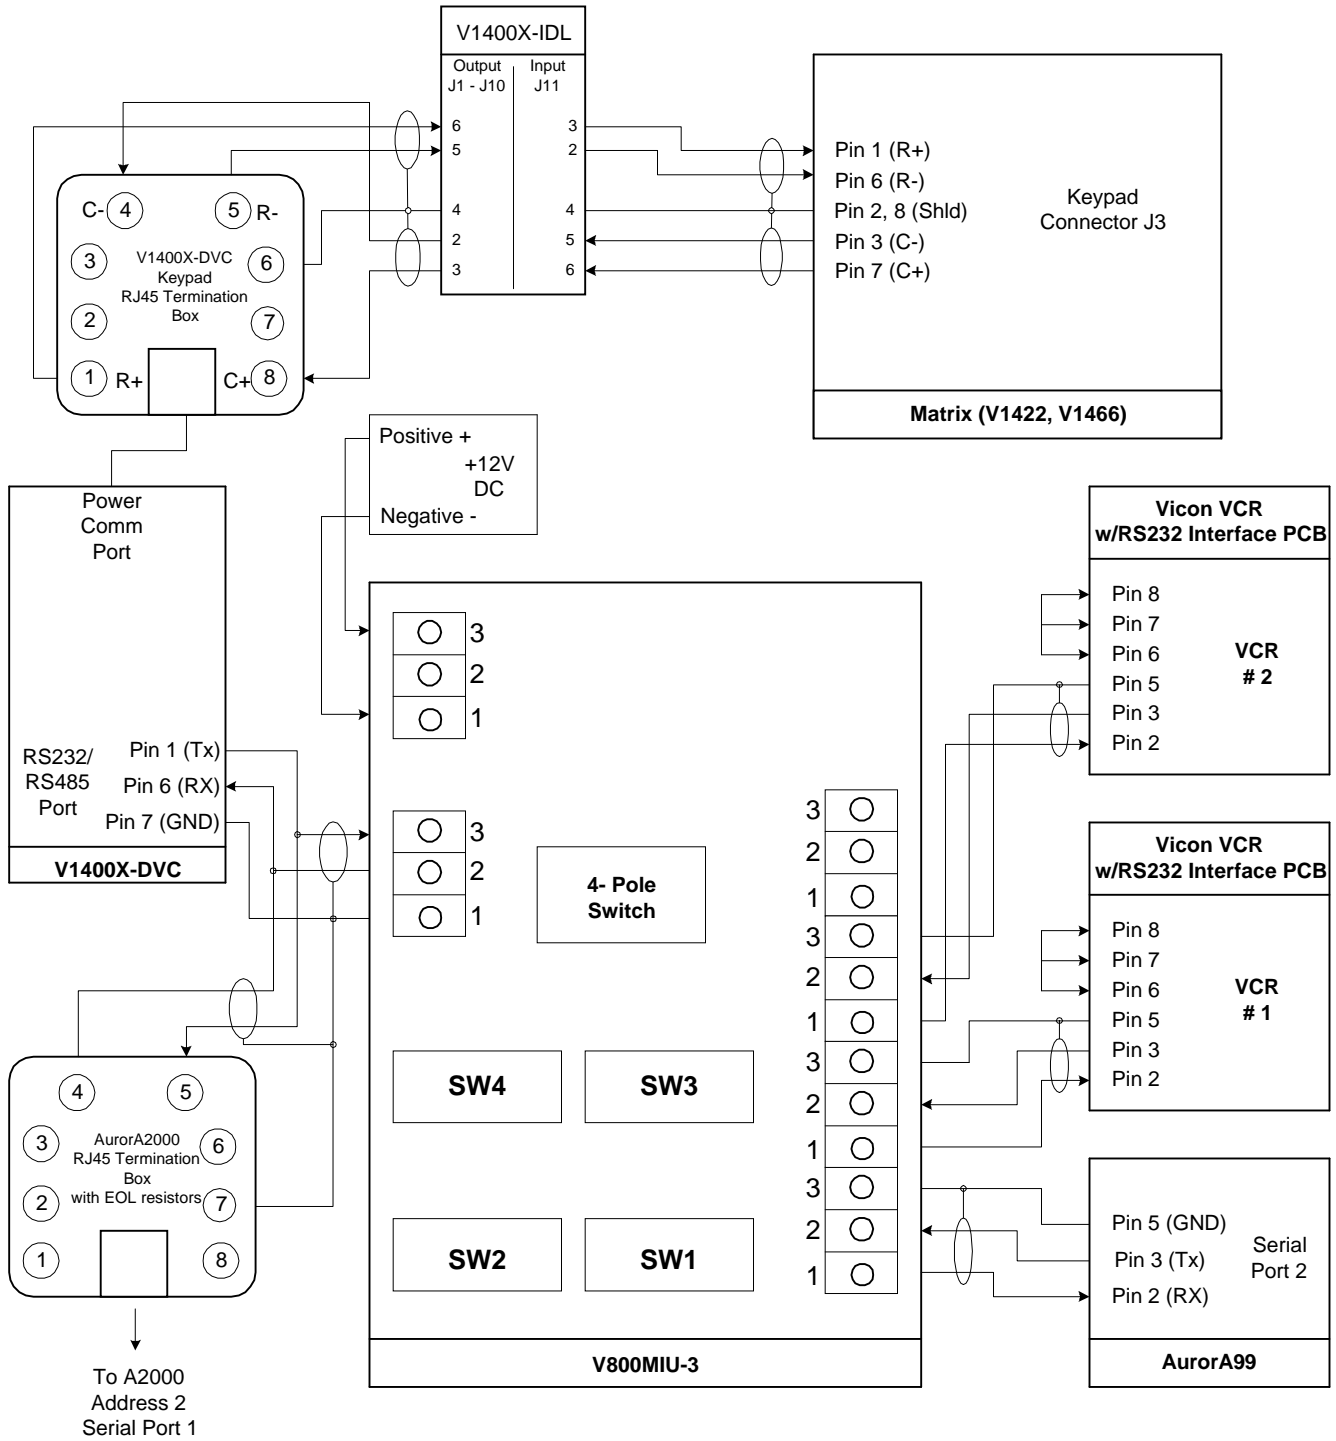

Figure 1
1. Complete the system interconnections as shown in Figure 1.